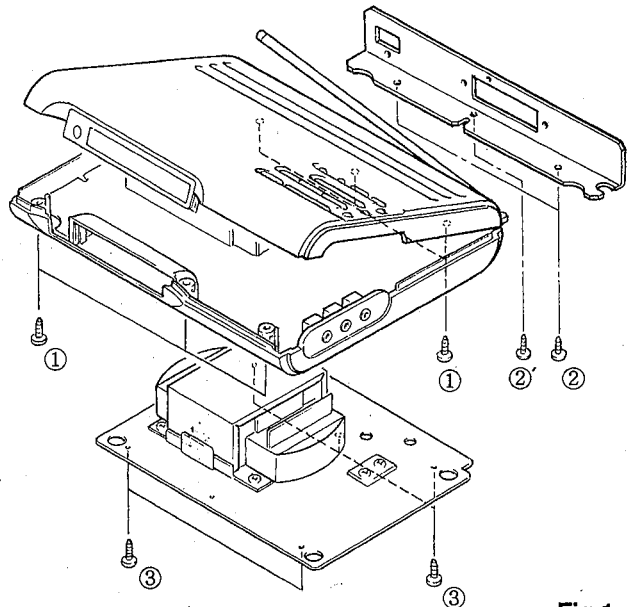

Fig.1
- a. Remove 6 screws (①) in Fig.1.
- a. Remove 2 screws (②) in Fig.1.
- b. Remove 1 screw (②) in Fig.1.
- a. Remove 5 screws (③) in Fig.1.